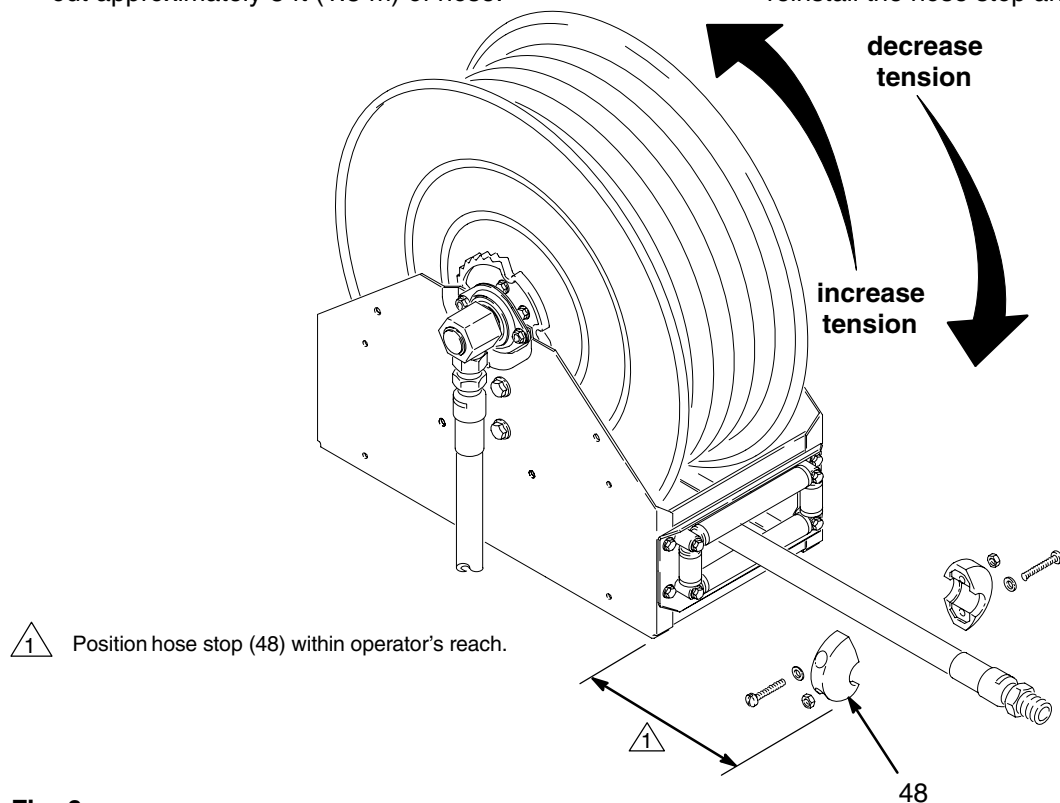

Fig. 6
2. Remove the dispensing valve (not shown) and the hose stop (48). See Fig. 6.
4. Rotate the reel in the direction of the appropriate arrow shown in Fig. 6, keeping the hose wrapped on the reel. Each rotation of the reel increases or decreases enough spring tension to retract or let out approximately 5 ft (1.5 m) of hose.